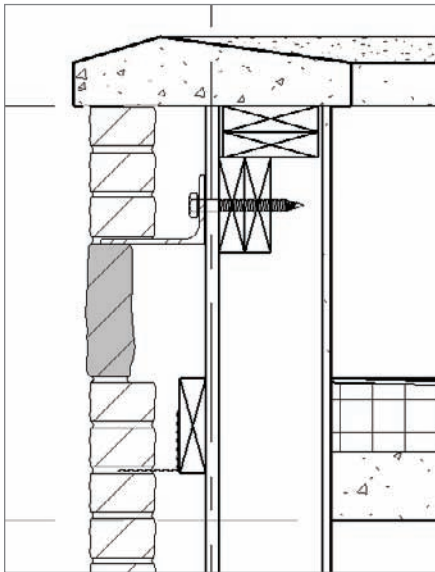

FIGURE 12.43 Copy the blocking as shown.
6. Copy the blocking down to double it, as shown in Figure 12.43.
7. Copy and rotate blocking to the positions shown in Figure 12.43 to allow for support of the lag bolt.
9. Compare your detail to Figure 12.43.